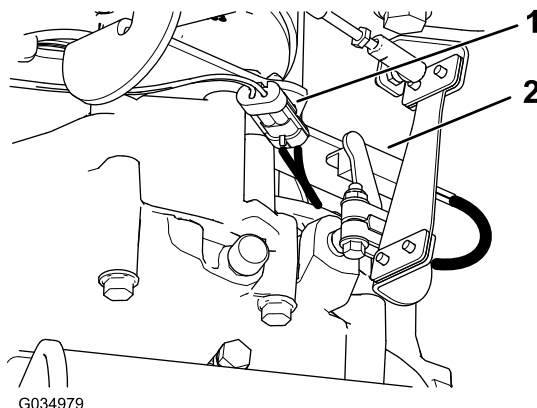

Figure 2
3. Connect the reverse-switch lead to the switch (Figure 2).